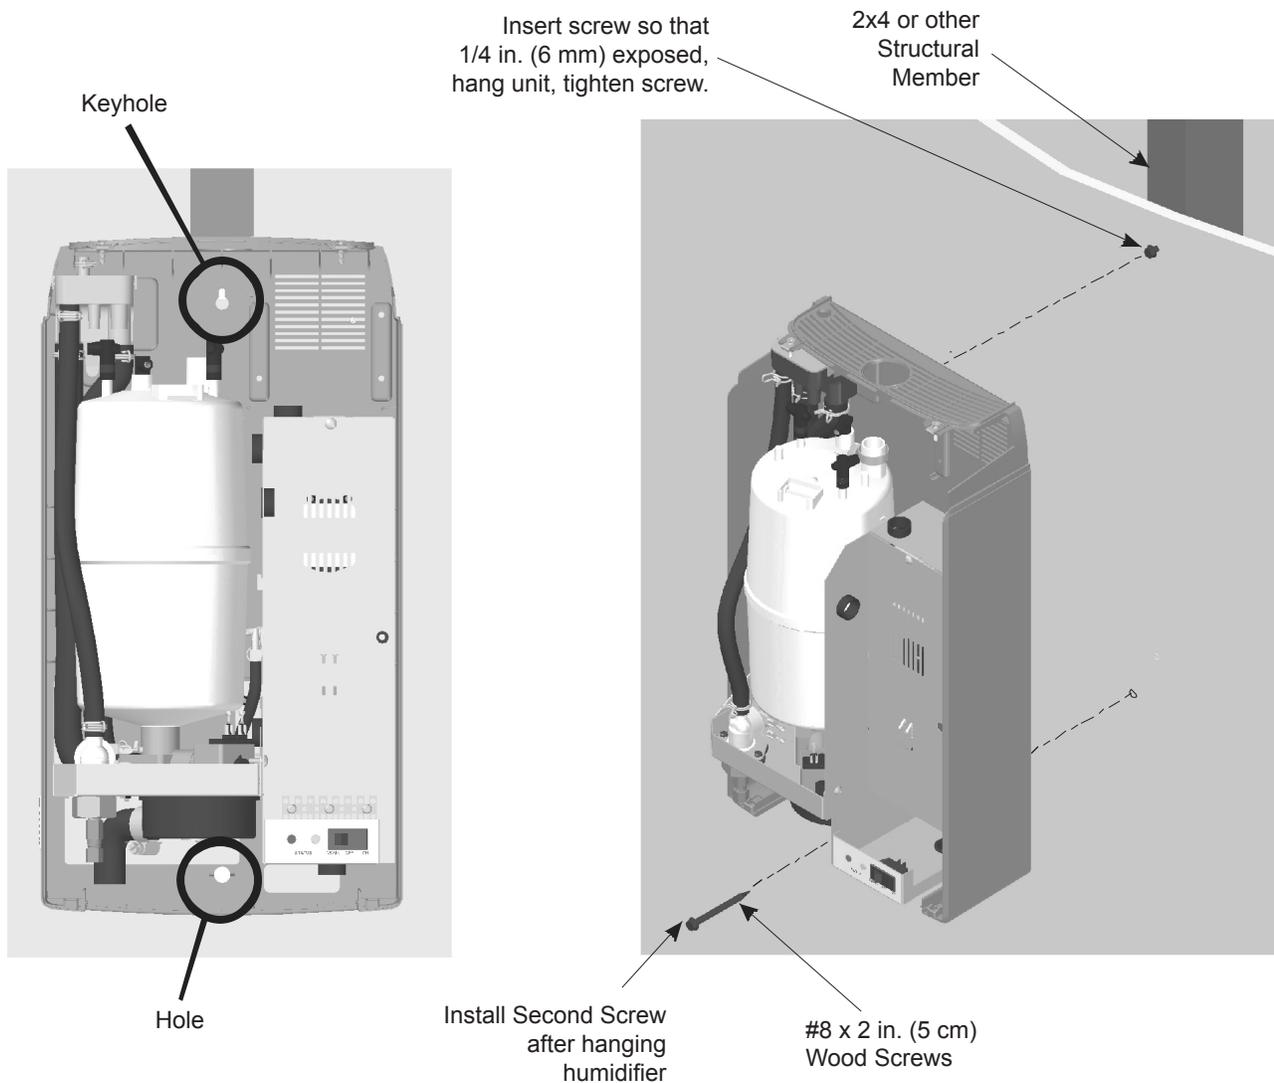

Figure 5: Mounting With Keyholes
4. Make sure the unit is level and then insert and tighten the second screw through the bottom hole. Tighten the top screw. See Figure 5: Mounting With Keyholes.